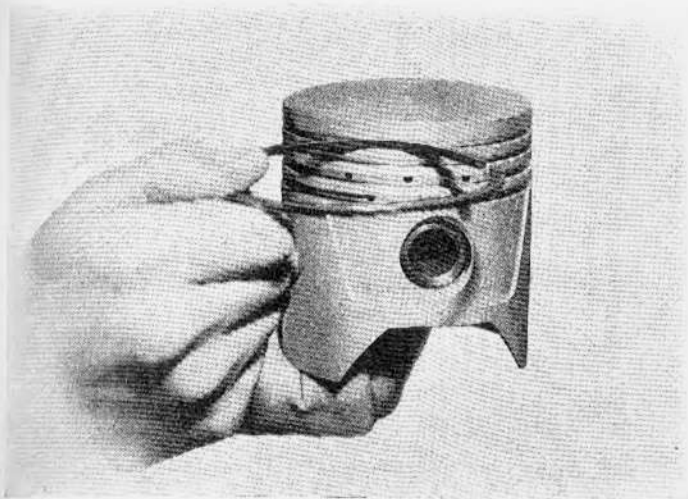

Figure 92 - Rolling Piston Ring in Ring Groove
(5) Remove the ring from the cylinder. Clamp a fine cut file in a vise. Grasping each end of the ring firmly between the thumb and fingers, work the two ends of the ring across the surfaces of the file, pressing the ring together at the gap lightly until the proper gap is obtained. Be careful not to distort the ring during this operation or it may bind in the ring groove of the piston. Fit each ring separately to the cylinder in which it is going to be used.
(6) New pistons, rings and cylinder bores wear considerably during seating and gaps widen quickly; however, engine operation will not become seriously affected if ring gaps do not become greater than 0.8 mm.
(7) Carefully remove all particles of carbon from the ring grooves in the piston and inspect the grooves carefully for burrs or nicks that might cause the rings to hang up.
(8) Slip the outer surface of the ring into the piston ring groove and roll the ring entirely around the groove to make sure that the ring is free and does not bind in the groove at any point (Fig. 92). If binding occurs the cause should be determined and removed by carefully dressing with a fine cut file. However, if the binding is caused by a distorted ring, install a new ring.
(9) Proper clearance of the piston ring in its piston ring groove is very important in maintaining engine performance and in preventing excessive oil consumption. Therefore, when fitting new rings, the following clearances between the top and bottom surfaces of the ring grooves should be provided.
(10) The top compression and top oil rings should be fitted so that a 0.04 mm feeler gage will be free but a 0.085 mm feeler will cause a rather heavy drag.